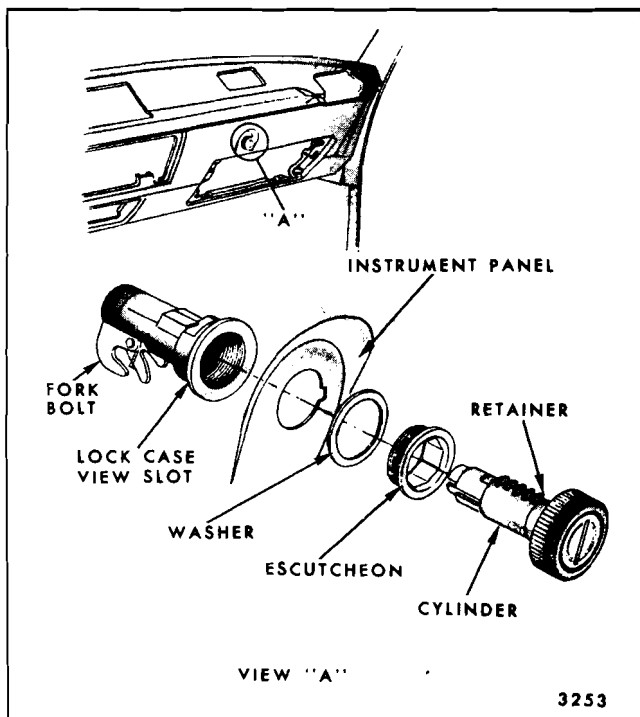

Fig. 5-19—Instrument Panel Compartment Door Lock and Cylinder - Buick "A & E" Styles, Chevrolet Typical
2. Insert round head key into lock cylinder and turn to locked position. Cylinder retainer will come into view in lock case view slot (Fig. 5-19).
4. Depress retainer with paperclip and reinsert key to hold retainer in retracted position (Fig. 5-19).